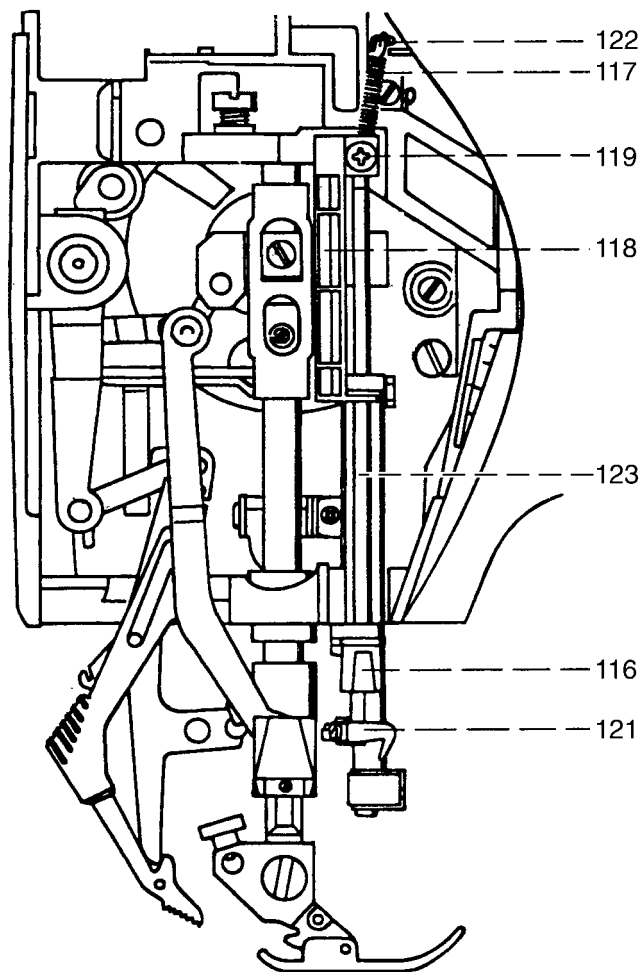

Fig. 71
- Disconnect pull-spring 117 from above (fig. 71).
- Rotate pull-spring 117 by two full turns counter-clockwise and engage it in hook 122 in such a way that the body of the spring is positioned outwards to the left (fig. 71).